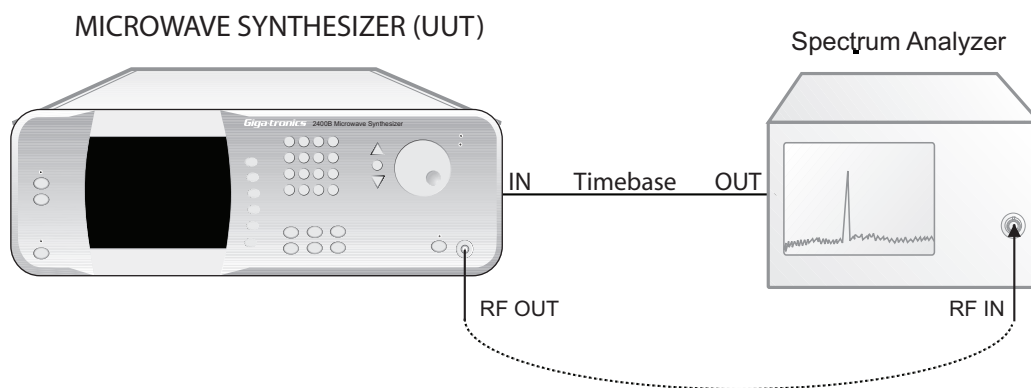

Figure 4-4: Step Attenuator Level Accuracy Test
1. Connect the test equipment and UUT as shown in Figure 4-4, connecting the UUT directly to the RF input of the Spectrum Analyzer.